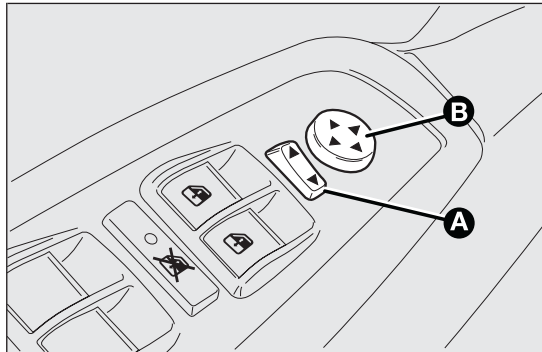

fig. 37
- use selector A fig. 37 to select the mirror (left or right) to be adjusted;